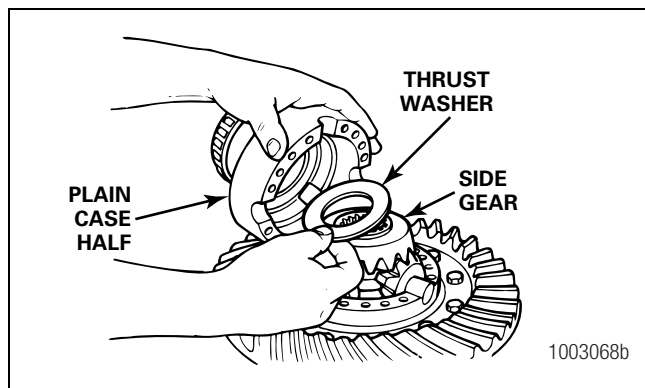
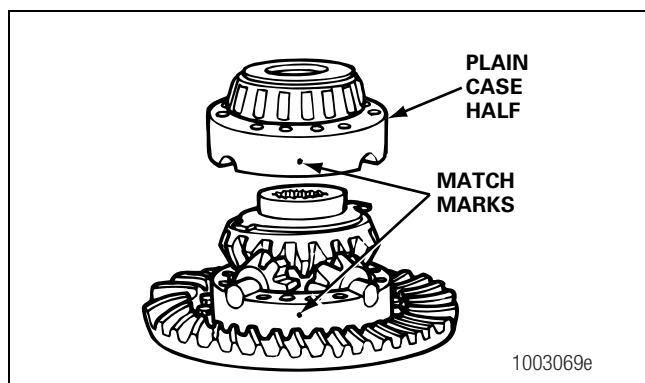

Figure 5.40
Figure 5.41
13. Install the second side gear and thrust washer over the spider and differential pinions. Figure 5.40.
14. Place the plain half of the differential case over the flange half and gears. Rotate the plain half to align the match marks. Figure 5.40 and Figure 5.41.